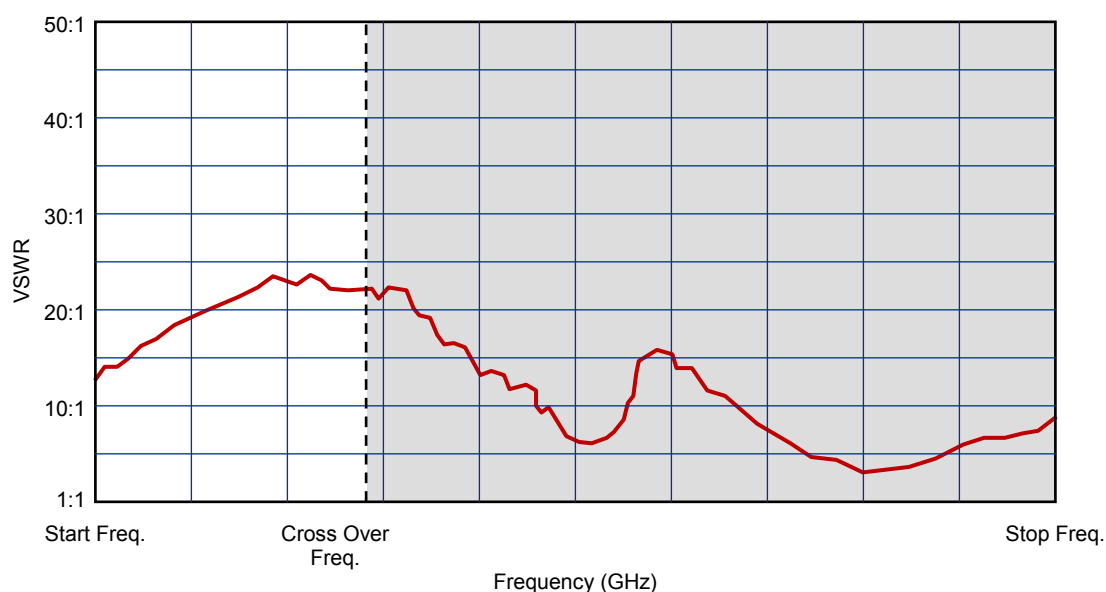

Figure 5. Low Band VSWR Range Display
14. Set the VNA controls for a convenient display and verify that the VSWR in the low band, from the start frequency to the cross over frequency of the tuner per Table 1, is as specified in Table 1. The VNA display should be similar to the sample shown in Figure 5.